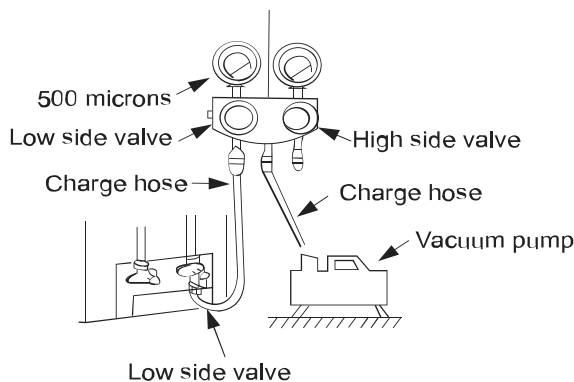

Fig. 6 —Manifold
1. Completely tighten flare nuts A, B, C, D. Connect the manifold gage charge hose to a charge port of the low side service valve (see Fig. 6).